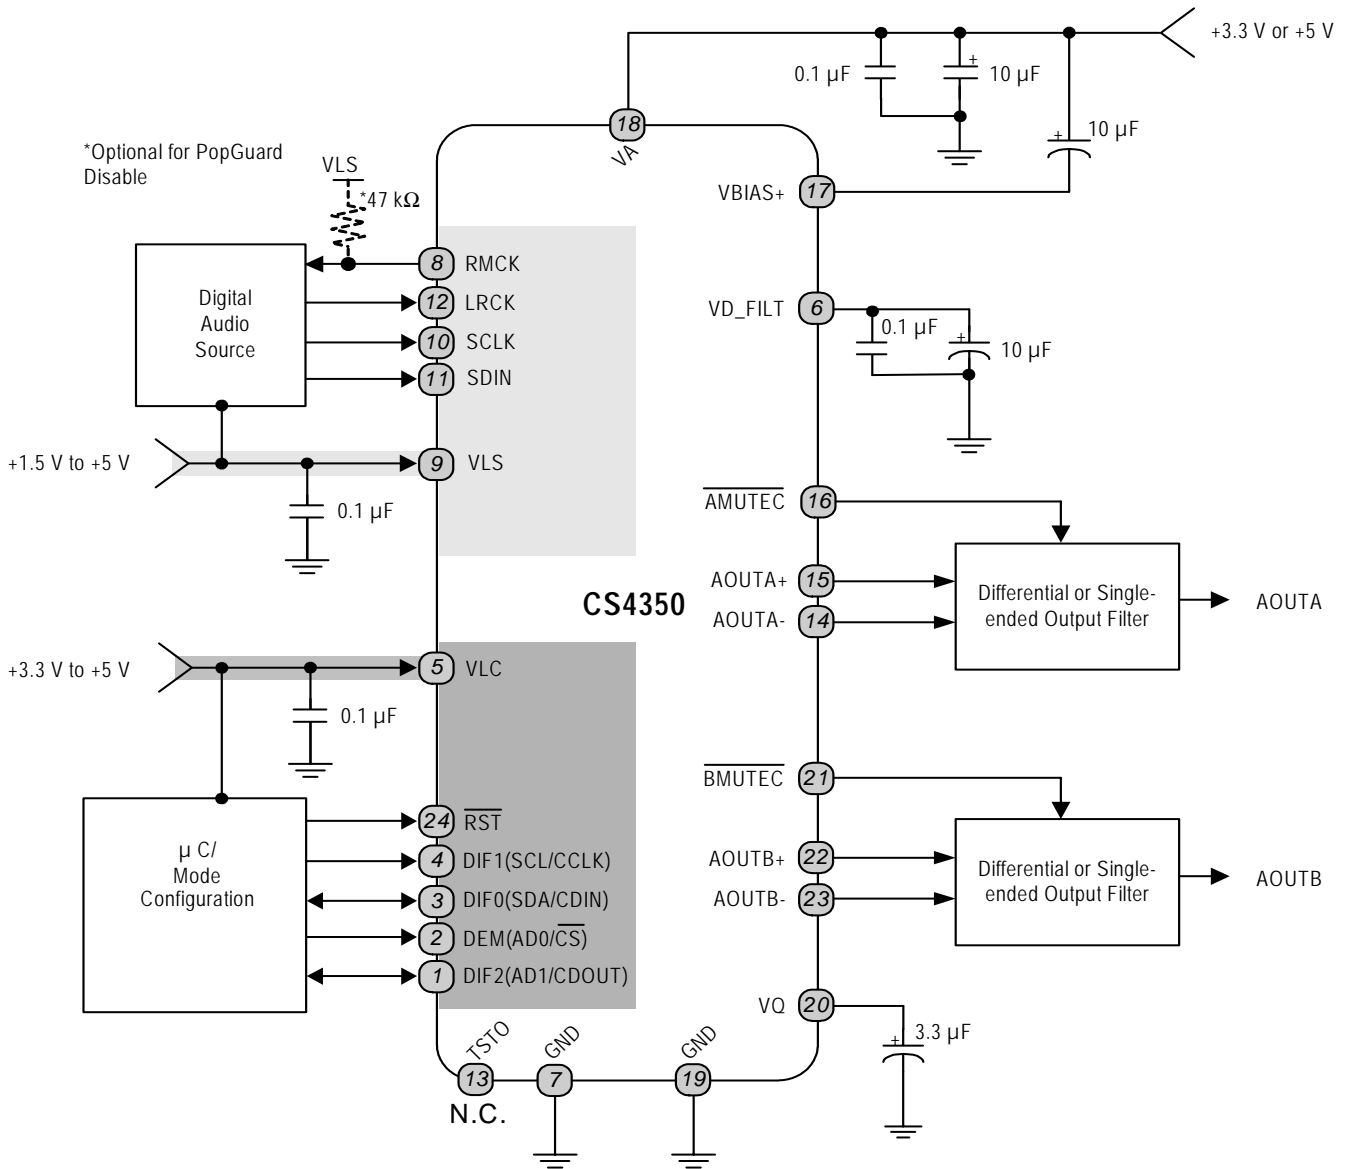

Figure 7. Typical Connection Diagram
17. Valid with the recommended capacitor values on VFILT, VQ, and VBIAS as shown in the typical connection diagram in Figure 7.
As with any high-resolution converter, the CS4350 requires careful attention to power supply and grounding arrangements if its potential performance is to be realized. Figure 7 shows the recommended power arrangements, with VA, VLC, and VLS connected to clean supplies. The use of split analog and digital ground planes is not recommended. However, if planes are split between digital ground and analog ground the GND pins of the CS4350 should be connected to the analog ground plane.